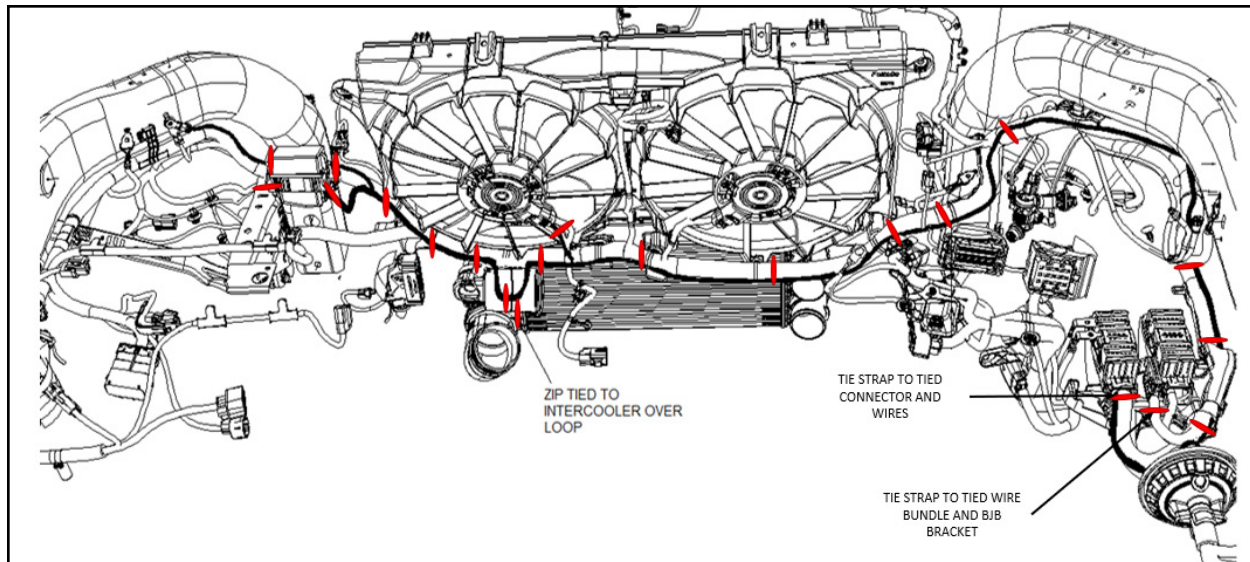

FIGURE 17
Figure 17 shows the placement of the zip ties needed to bundle the aux box harness to the 14290. Zip tie placement is critical. Please follow areas highlighted in red for placement.
25. Following the routing procedure in Figure 17, be sure to loop the aux box harness and secure it to the intercooler. See Figure 20.